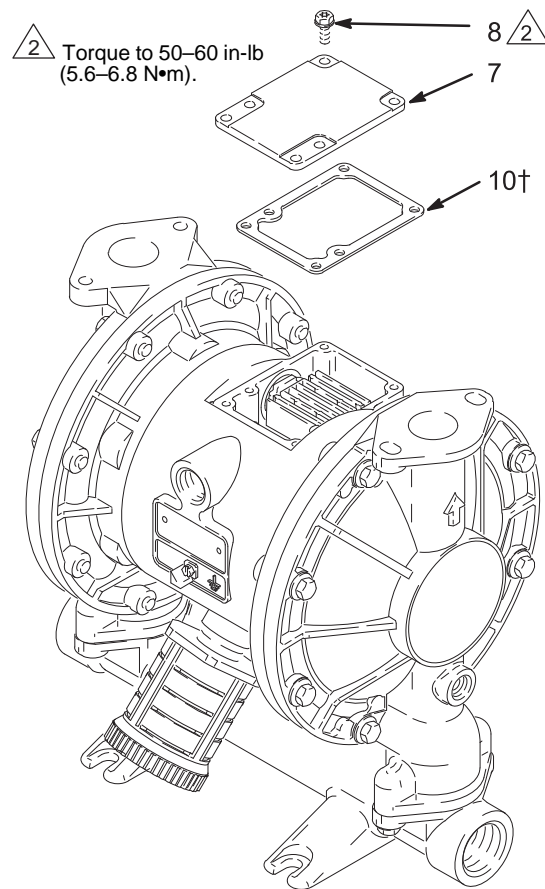

Fig. 7
2. With a Torx (T20) screwdriver or 7 mm (9/32 in.) socket wrench, remove the six screws (8), air valve cover (7), and gasket (10). See **Fig. 7**.
10. Align the valve gasket (10) and cover (7) with the six holes in the center housing (5). Secure with six screws (8), using a Torx (T20) screwdriver or 7 mm (9/32 in.) socket wrench. Torque to 50–60 in-lb (5.6–6.8 N•m). See Fig. 7.